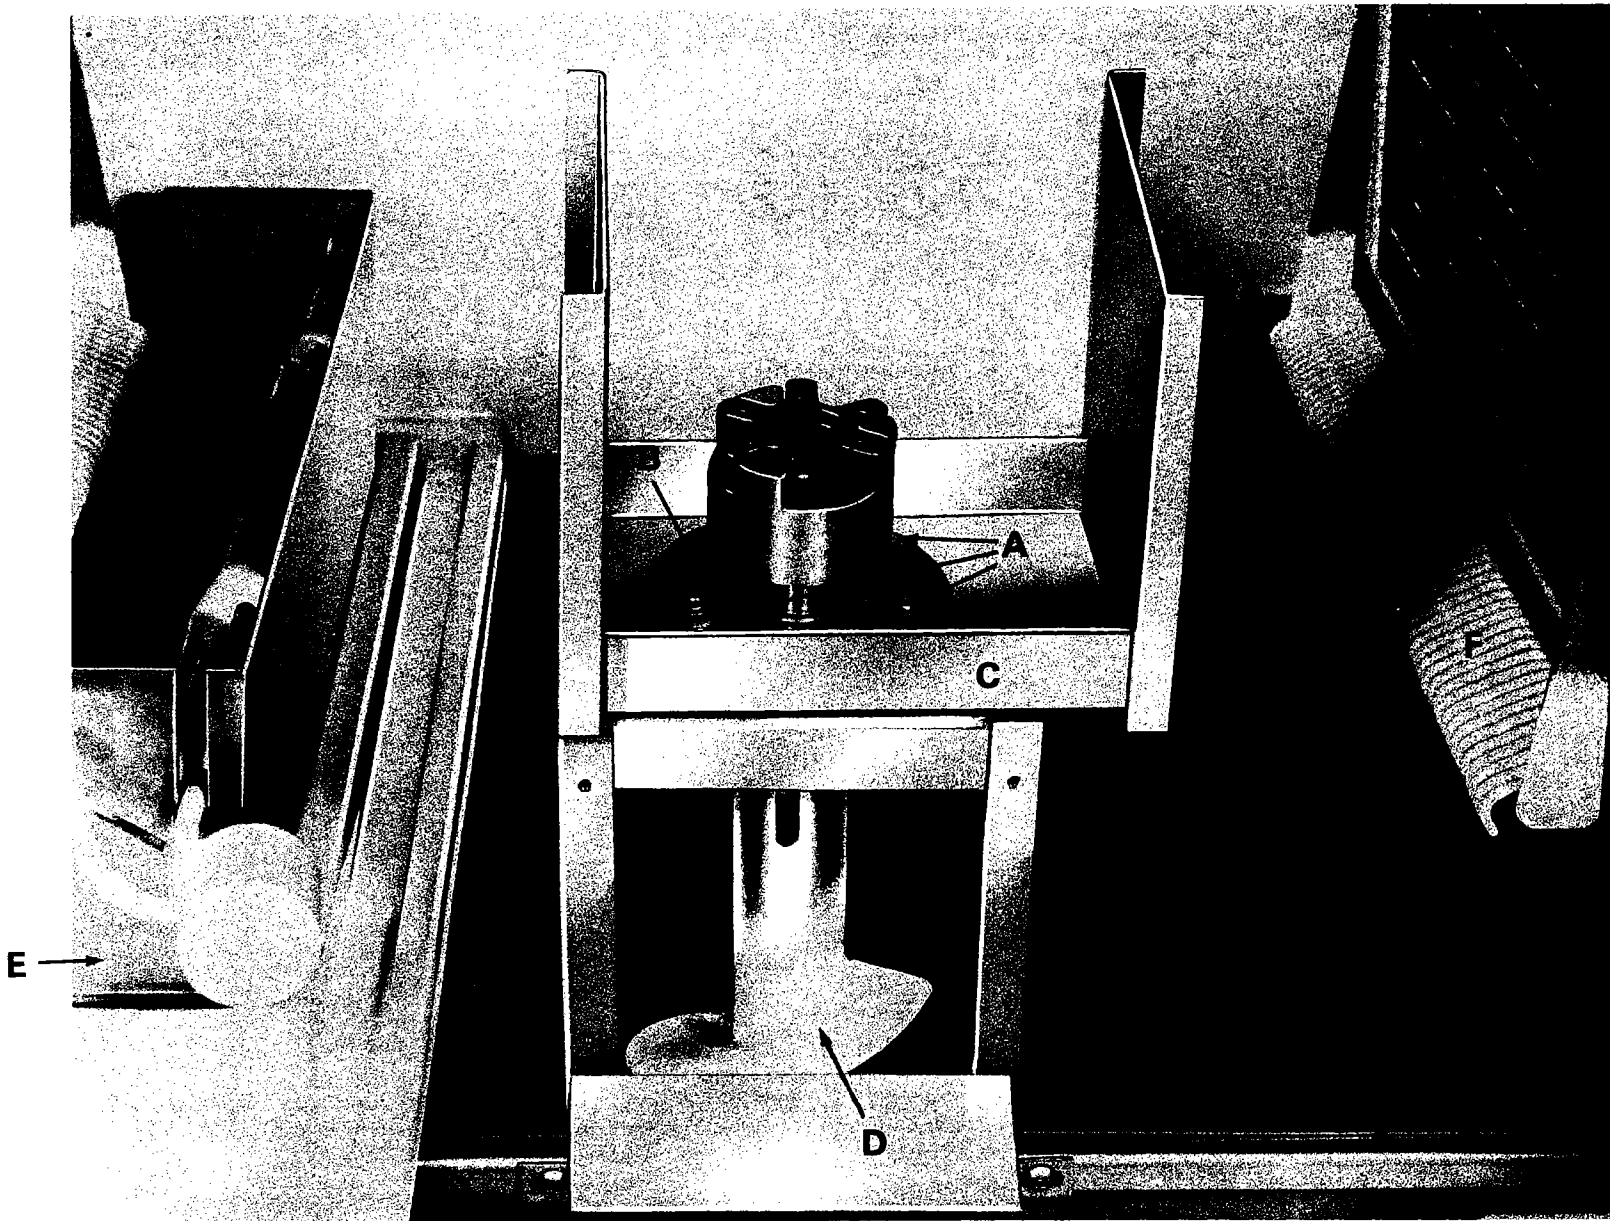

FIG. 7
5. Lift the gear drive and motor assembly along with top half of drive coupling (Fig. 6A), 6#, up and off from lower half of drive coupling (Fig. 7). Because of the weight of this assembly be careful not to drop it into the bottom of the bin.